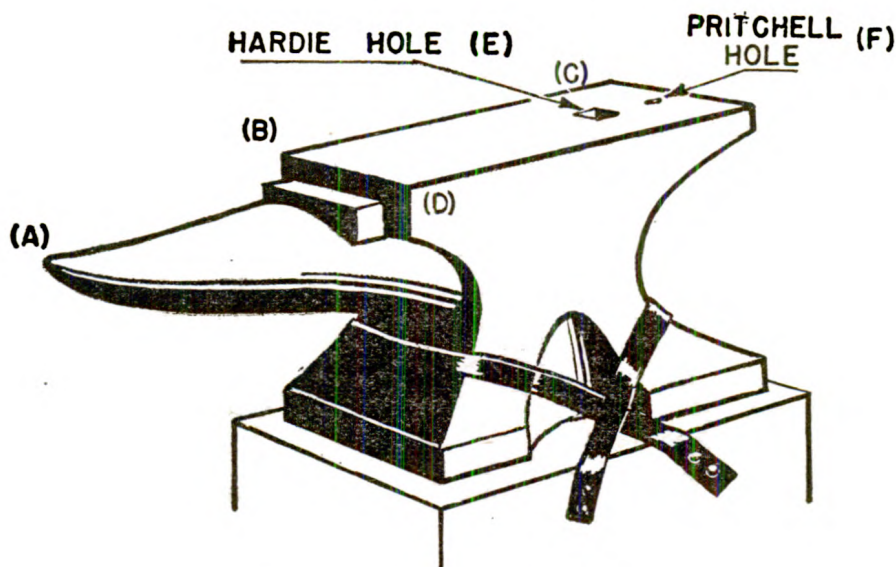

Figure 82.—Blacksmith's anvil.
Figure 82 shows the common garden variety of blacksmith's anvil. At one end, it has a HORN (A), around which you can bend metal parts.
It is important to mount your anvil adequately. An excellent mount is a solid oak block. If you work quite a lot with soft metals, it is a good idea to put a sheet of leather or felt between the bottom of the anvil and the mounting block to absorb some of the shock of the hammer blows. You can secure the anvil by using iron straps, like those in figure 82. A good way to judge whether the anvil is mounted at the right height is to